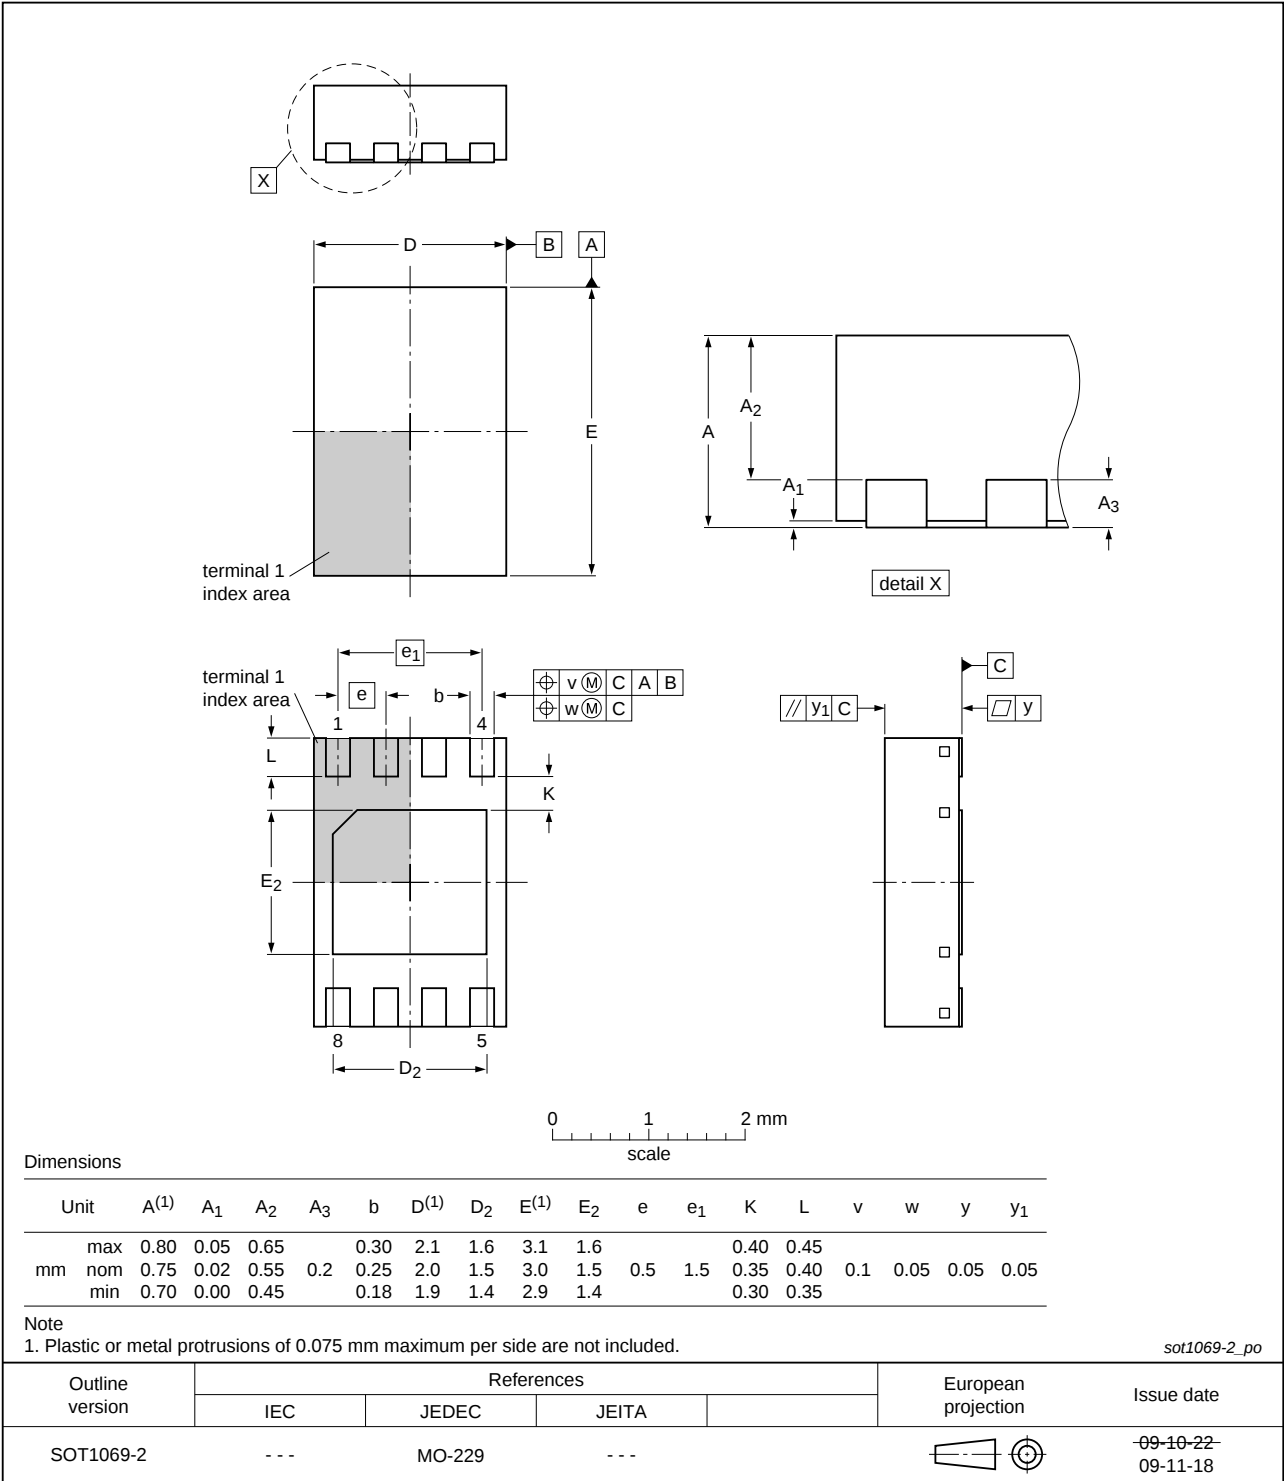

Fig 12. Package outline SOT1069-2 (HWSON8)
• Section 2 "Features and benefits": – 12th bullet item: deleted phrase "200 V MM per JESD22-A115" – 14th bullet item: added "HWSO8" package • Table 1 "Ordering information": added Type number PCA9515ATP (HWSO8 package) • Section 5.1 "Pinning": added (new) Figure 4 "Pin configuration for HWSO8" • Table 2 "Pin description": added column for HWSO8 pinning • Table 3 "Limiting values": – Symbol/Parameter "V_{bus}, voltage on I²C-bus, SCL or SDA" changed to "$V_{I2C-bus}$, I²C-bus voltage" with "SCL or SDA" in Conditions column – Symbol/Parameter "I, DC current" changed to "$I_{I/O}$, input/output current" • Table 4 "Static characteristics ($V_{CC} = 3.0\text{ V to }3.6\text{ V}$)", Table note [1]: added phrase "(Table 4 for $V_{CC} = 3.0\text{ V to }3.6\text{ V}$; Table 5 for $V_{CC} = 2.3\text{ V to }2.7\text{ V}$)" • Table 5 "Static characteristics ($V_{CC} = 2.3\text{ V to }2.7\text{ V}$)", Table note [1]: added phrase "(Table 4 for $V_{CC} = 3.0\text{ V to }3.6\text{ V}$; Table 5 for $V_{CC} = 2.3\text{ V to }2.7\text{ V}$)" • Section 12 "Package outline": added (new) Figure 12 "Package outline SOT1069-2 (HWSO8)"